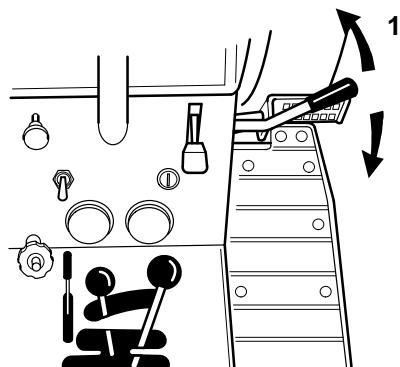

Figure 20
2. Push the power take off (PTO) lever forward to engage (Fig. 20).
2. Pull the power take off (PTO) lever back to disengage (Fig. 20).